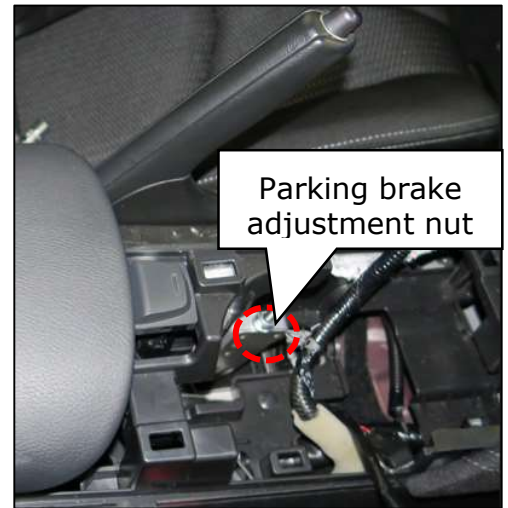

Figure 51
- b) Tighten the parking brake lever adjustment nut several turns Figure 51